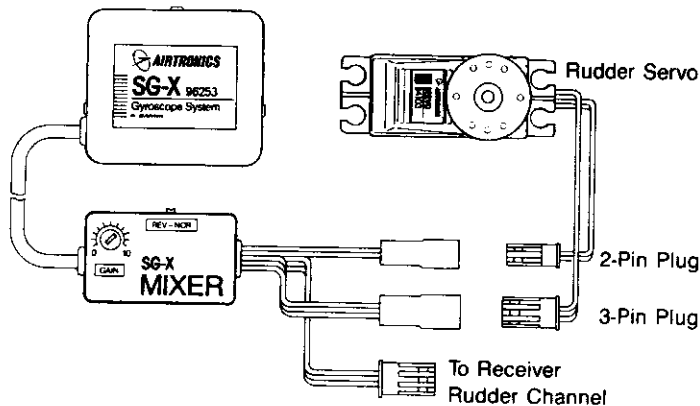
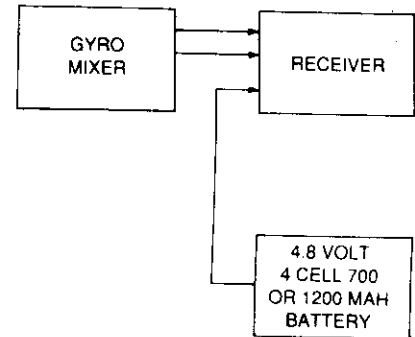

FIGURE 1
FIGURE 2
Gyro systems for R/C model helicopters and the transmitters they are flown with, have to be designed to work together to make full use of the best features of both. The Airtronics 96253 Gyro system is designed to take full advantage of the features of the Airtronics Helicopter Radios and vice versa, and therefore are highly recommended for use with each other. It is recommended that you set up the gyro system on the helicopter's receiver as indicated in Figure 1. A single 1200 MAH or 700 MAH battery can be used to power both the receiver and the gyro as shown in Figure 2. The Gyroscope motor should operate.
1. Connect the gyro system to the helicopter's receiver as indicated in Figure 1. A single 1200 MAH or 700 MAH battery can be used to power both the receiver and the gyro as shown in Figure 2. The Gyroscope motor should operate.